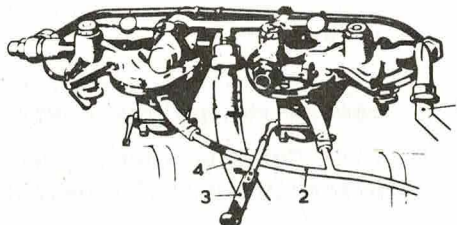

Fig.2. Fuel pump connections
4. Disconnect the throttle and mixture connecting rods (8) from the pick-up levers on the engine on the port side.
5. Remove the induction manifold drain (27) after disconnecting at the front end of the rubber hose.
6. Remove the breather-drain pipe (26) after disconnecting the couplings at its extreme ends (19 and 28), at pipe (20), and pipe (24) at the fuel pumps (fig. 2).
7. Disconnect, at the fuel pumps, the delivery pipe (29) and the supply pipe (13) which leads from the filter. Remove the pumps by removing the four nuts and spring washers (not illustrated) which secure them to the crankcase.
8. Disconnect the oil pipe (10) at the suction filter and the oil return-to-tank pipe (11) at the engine connection.
9. Disconnect the oil tank vent pipe connection (15), the oil thermometer bulbs (12) and pressure hose (16) at the engine.